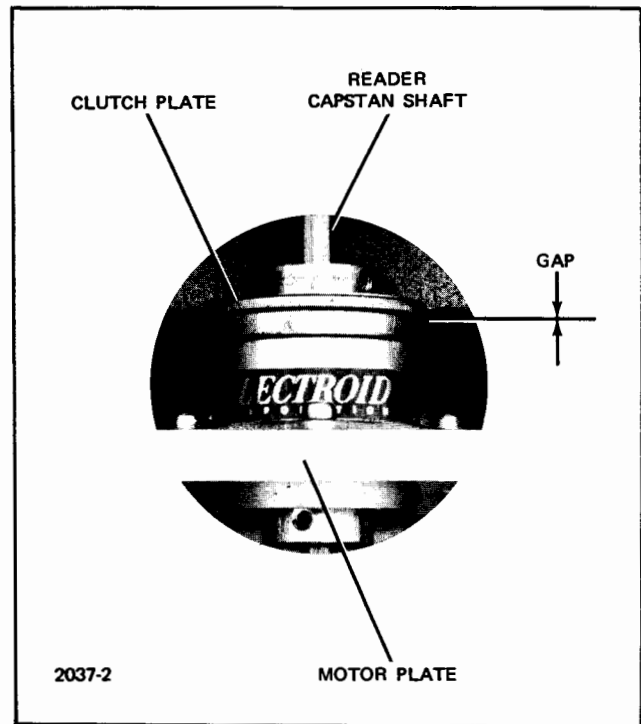

Figure 4-2. Clutch Adjustment
a. With a feeler gauge, check clutch gap and adjust, if necessary, for a  $0.010 \pm 0.005$ -inch gap. Adjust gap by loosening screw in clutch plate, setting clutch plate on capstan shaft for proper clearance, and tightening screw in clutch plate. (See figure 4-2.)